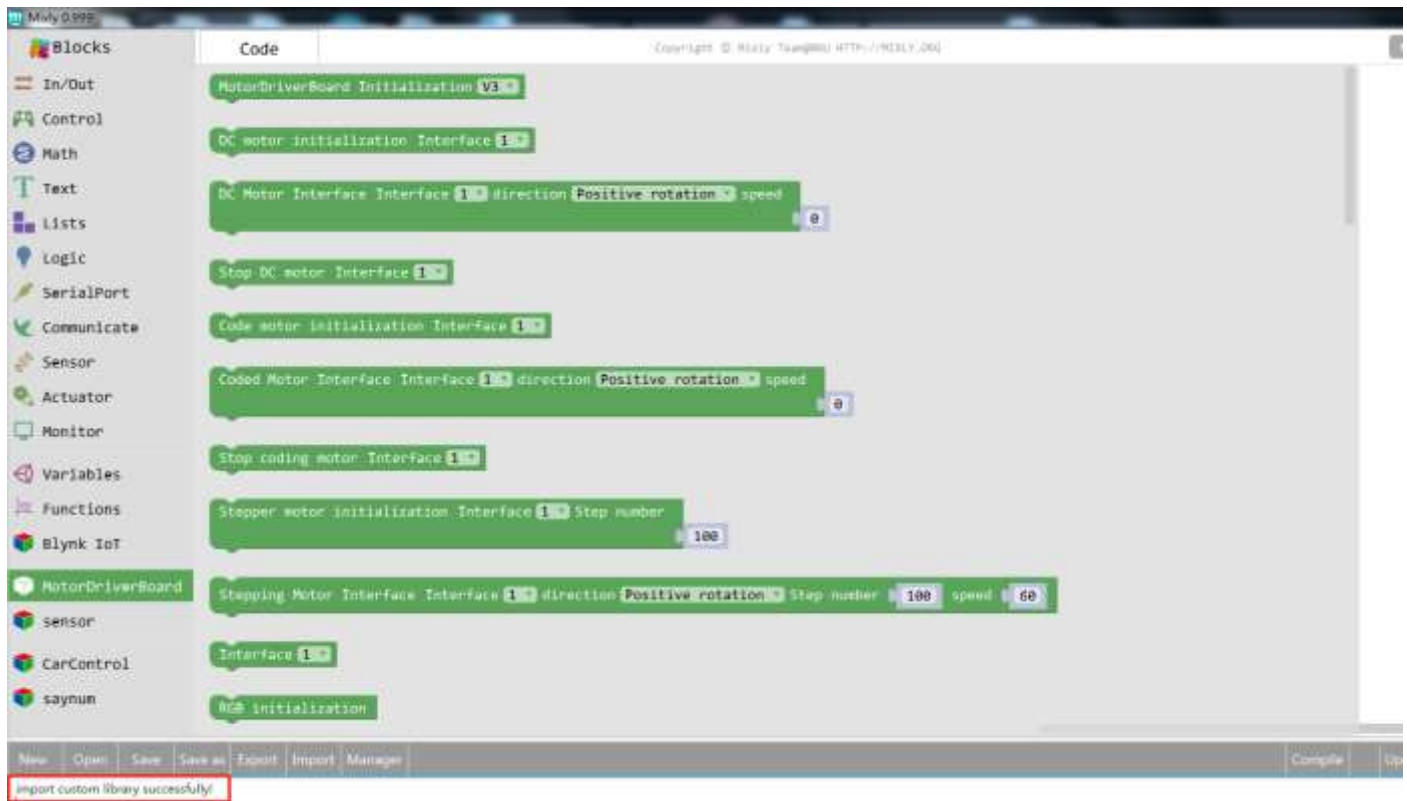

Figure 2-1-3
- 4) After the import is successful, the prompt area will display: import the custom library successfully! In the library module area, you can see the motordriverboard library module, as shown in figure 2-1-3;